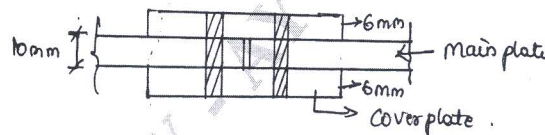

Fig.Q1(b)
- b. Determine the bolt value for the shown butt joint in Fig.Q1(b) using M₂₀ and property class 5.6 bolts.